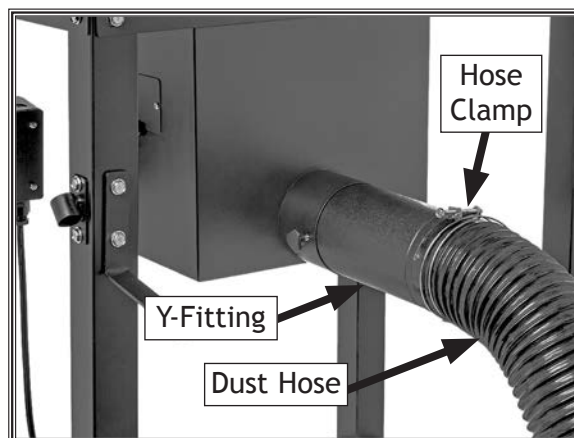

Figure 11. Example of 4" dust hose connected to Y-fitting.
1. Fit a 4" dust hose over dust port, as shown in **Figure 11**, and secure it in place with a hose clamp.